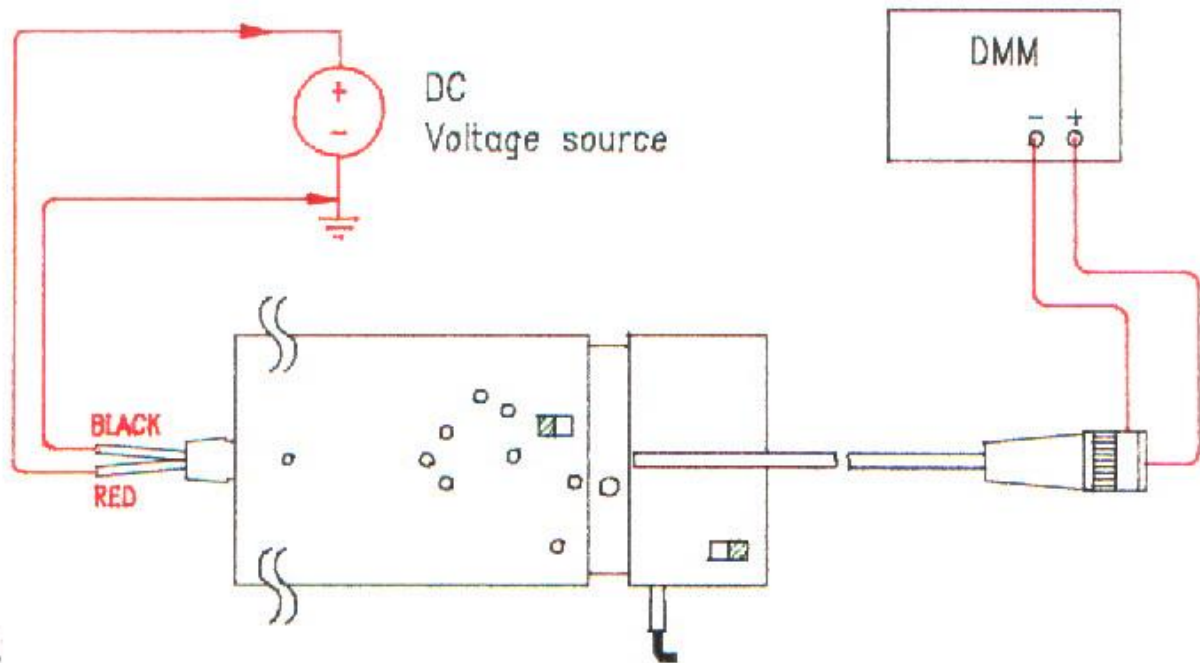

Fig. 12
- a. Referring to Fig. 12, connect output BNC to a DMM.